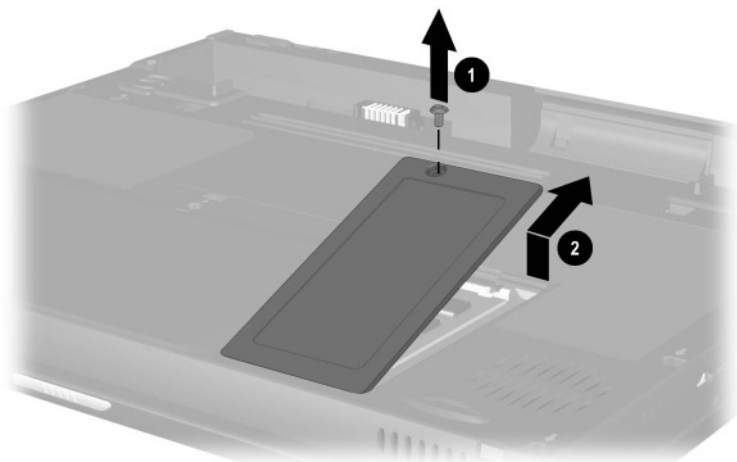

Figure 5-12. Removing the Memory Expansion Compartment Cover
3. Remove the TM2.0 × 6.0 screw ❶ that secures the memory expansion compartment cover to the base enclosure (Figure 5-12).
4. Lift the back edge of the memory expansion compartment cover and swing it up and forward ❷.